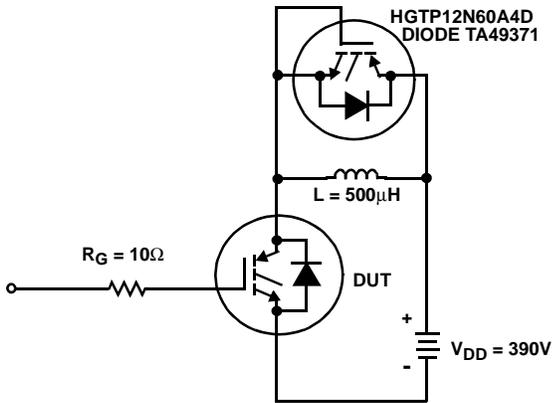

FIGURE 24. INDUCTIVE SWITCHING TEST CIRCUIT
| Current Turn-On Delay Time              | $t_{d(ON)I}$  | IGBT and Diode at $T_J = 25^{\circ}\text{C}$ ,$I_{CE} = 12\text{A}$ ,$V_{CE} = 390\text{V}$ ,$V_{GE} = 15\text{V}$ ,$R_G = 10\Omega$ ,$L = 500\mu\text{H}$ ,Test Circuit (Figure 24) | -  | 17  | -         | ns            |               |
| Current Turn-On Delay Time              | $t_{d(ON)I}$  |  | IGBT and Diode at $T_J = 125^{\circ}\text{C}$ ,$I_{CE} = 12\text{A}$ ,$V_{CE} = 390\text{V}$ , $V_{GE} = 15\text{V}$ ,$R_G = 10\Omega$ ,$L = 500\mu\text{H}$ ,Test Circuit (Figure 24) | -   | 17        | -             | ns            |
- Values for two Turn-On loss conditions are shown for the convenience of the circuit designer.  $E_{ON1}$  is the turn-on loss of the IGBT only.  $E_{ON2}$  is the turn-on loss when a typical diode is used in the test circuit and the diode is at the same  $T_J$  as the IGBT. The diode type is specified in Figure 24.